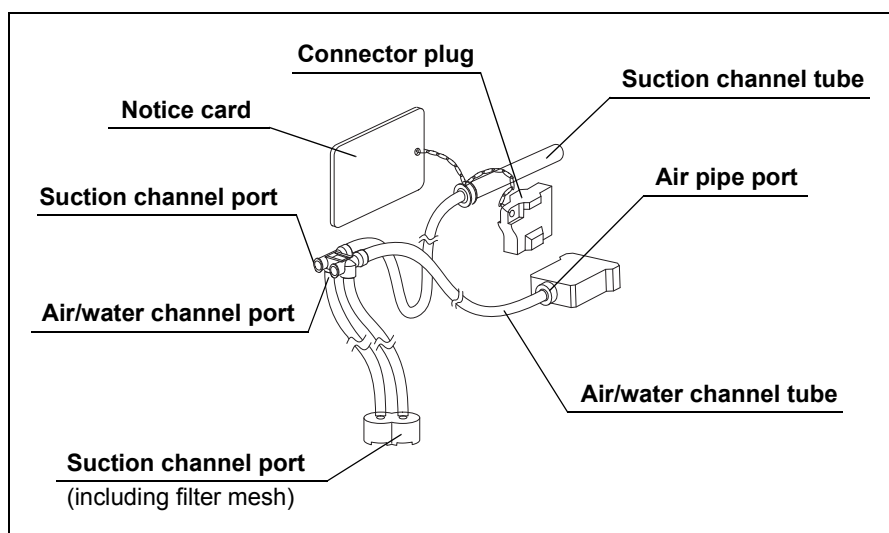

Figure 7.11
The injection tube is used to inject detergent solution, disinfectant solution, water and alcohol into the air/water channel, instrument channel and suction channel and to flush air through the channels to expel fluids (see Figure 7.11).
1. Confirm that all components of the injection tube are free from cracks, scratches, flaws and debris (see Figure 7.11 on page 94).